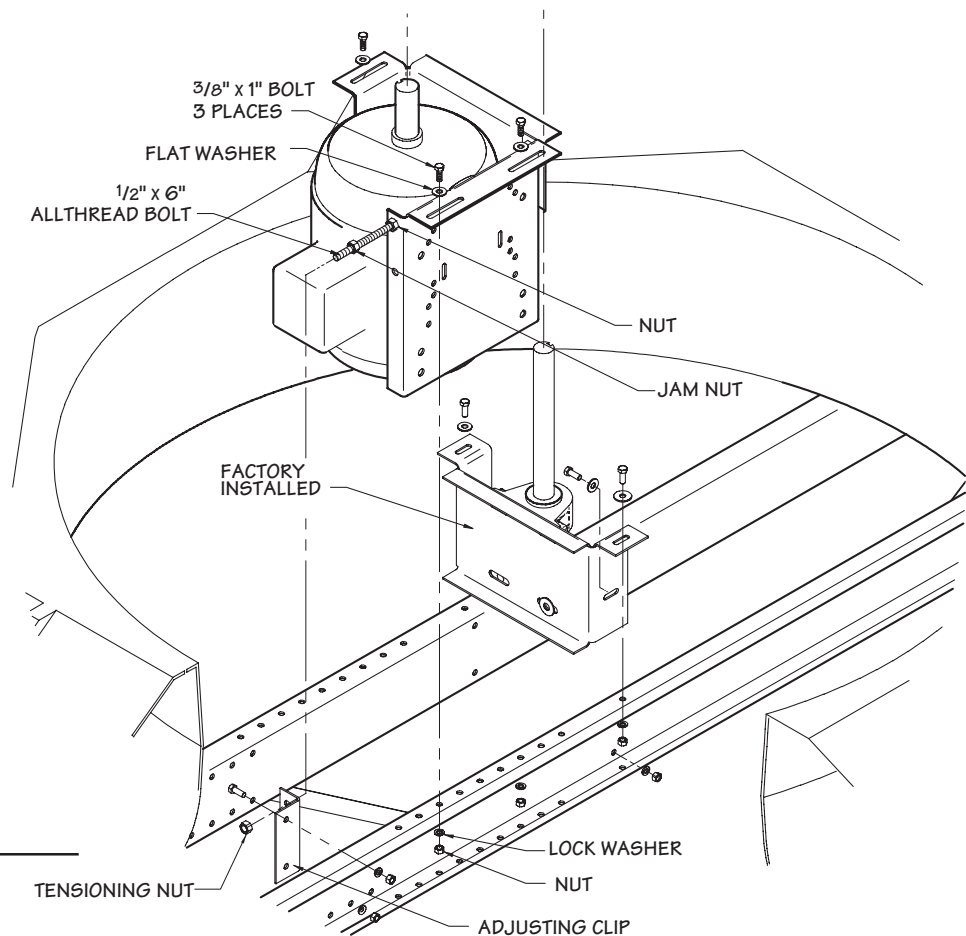

Figure 3
2. Install motor assembly on tower cross beams as shown in Figure 3. Slide toward the fan shaft assembly. Do not install bolts yet.
4. Install belts on the lowest set of grooves. Slide the motor assembly away from fan shaft and to remove belt slack and install bolts in tower cross beams. Do not tighten at this time. Install the 6" all-thread bolt on the motor plate and adjusting clip as shown in the Assembly Details and Figure 3. Adjusting clip may have to be relocated to another set of holes. Tighten the tensioning nut on the all-thread bolt at the adjusting clip to tension belts. Proper tension is achieved when a belt deflects about 1/4" under a force of 5 to 7 pounds. Tighten jam nut against the adjusting clip to lock adjustment. Tighten bolts in tower cross beam.